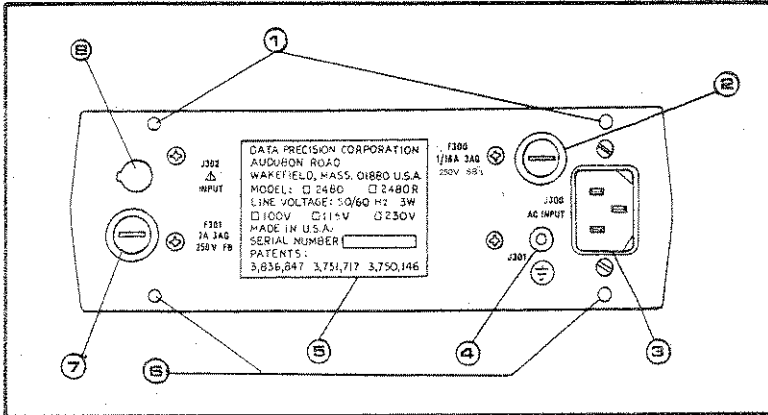

Figure 2-3 — Model 2480/2480 DMM Rear Panel Features
Table 2-2 (Figure 2-3)
a. Model 2480/2480R Digital Multimeter is powered by 110VAC (Model 2480/2480R) or 230VAC (Model 2480E/2480RE) or 100VAC (Model 2480J/2480JE) as determined by the ordered configuration. (See rear panel label.) Connect the line cord to the rear connector (Figure 2-3, item 3) and to the power source. In addition, any Model 2480/2480R may be powered by an accessory battery assembly, C48, field-installable in guides within the case. When a battery assembly is installed, it is always being recharged when the ac power is connected.